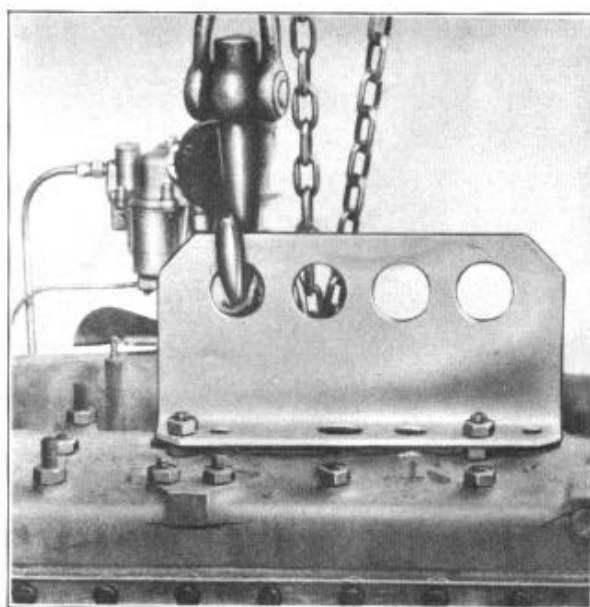

FIGURE 20
9. Attach Motor Lift Bracket J-2782 and lift hoist hook, Figure 20.
CAUTION: Be sure the engine lift bracket is safely attached to the engine and that chain fall hook is properly positioned with chain tight, Figure 20, as engine will tip when the No. 3 crossmember is removed.
11. Carefully remove engine out of chassis, Figure 20.